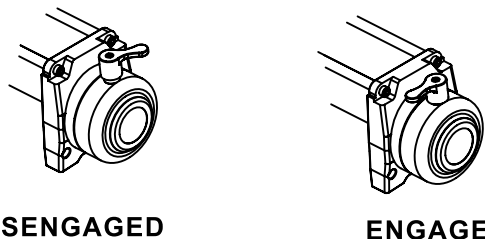

Figure9
- Turn the rotary clutch to the position of **DISENGAGED** and pull out several feet of wire rope from the wheel. Then turn clutch to the position of **ENGAGED**. Plug in the controller of rope release. Press the button to check the rotation direction of wire rope and recheck the connection of the wire. (See figure 9)